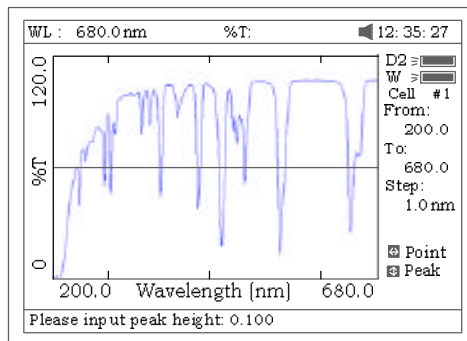
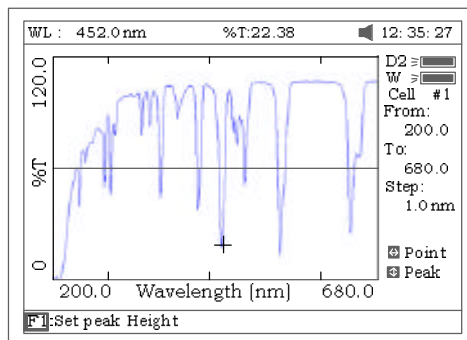

Fig 50
Fig 51
- a) *Peak to peak, press **[F1]** to set “peak height” and input value by pressing the numeric keypad (Fig 50). Press **[>]** to search the peak from left to right and press **[<]** to search from right to left. The value of every peak found will be displayed on the screen one at a time (Fig 51).*